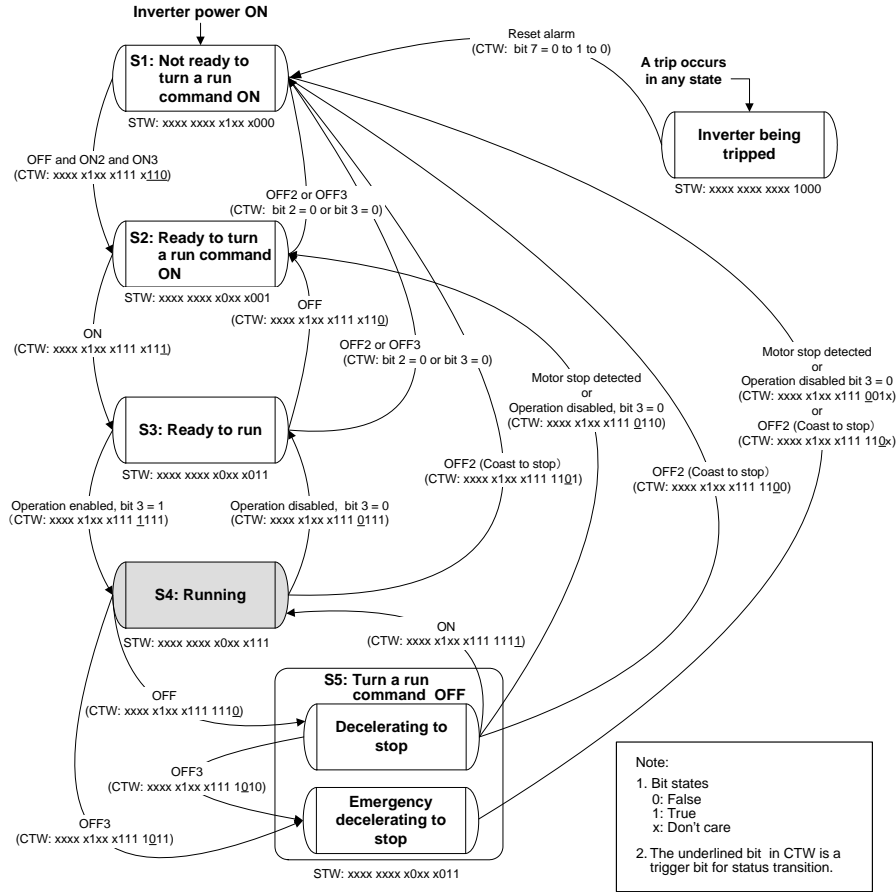

Figure 14 Status Transition Diagram of PROFIdrive Profile
For the status transition condition of the PROFIdrive profile, refer to Section (2) "STW (status word)" and Figure 14 on the following pages.
📖 STW indicates the status transition of the PROFIdrive. The status transition details are shown in Figure 14.
Figure 14 illustrates a status transition diagram of the PROFIdrive profile.
Note In Figure 14, to simplify the description, values of Bit 4 to Bit 6 and Bit 10 in CTW are always "1." If any one of these bit values is not "1," the inverter will not enter the running state even if the status transition properly proceeds.